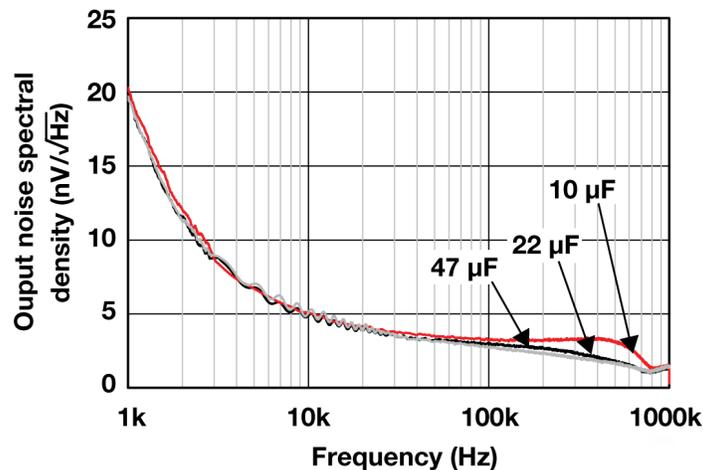
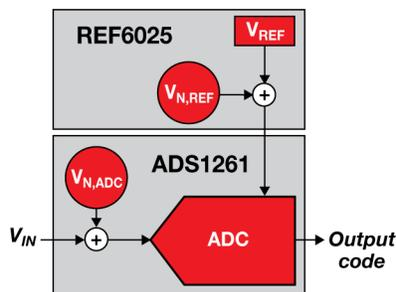

Figure 42. Output noise spectral density plot for the REF6025.
Figure 43. System setup using the ADS1261 and REF6025.
- **Point B.** This is the total noise when the input voltage is equal to the reference voltage—that is, a full-scale reading. In general, take the root sum of squares (RSS) of the reference noise and the ADC noise to determine Point B. However, when the reference noise is much larger than the ADC noise—as is the case in Figure 41—you can approximate Point B as just the reference noise. Either way, you generally cannot read the value of the voltage reference noise directly from the data sheet, since it depends on several factors including the voltage reference’s noise characteristics. Figure 42 shows the output noise spectral density for TI’s REF6025, a 2.5-V precision voltage reference.
In Figure 42, note the significant increase in noise density at low frequencies ($1/f$ [flicker] noise) compared to the relatively flat noise density at higher frequencies (broadband noise). Like several of the amplifiers analyzed in Section 3.2, reference noise performance is not necessarily constant over frequency.
For this example, let's continue using the REF6025 shown in Figure 42 and pair it with the **ADS1261**, a 24-bit delta sigma ADC. This device offers low noise and an integrated programmable gain amplifier (PGA), both of which will make the reference-noise-versus-gain relationship more apparent. Despite these choices, you can apply this analysis to any combination of ADCs and voltage references. Figure 43 shows the system setup for this example.
Similar to the amplifier noise analysis in Section 3.1, you can separate the components in Figure 43 into noiseless devices preceded by a voltage source that is equivalent to each component's noise. The ADC noise ($V_{N,ADC}$) is listed in the ADS1261's data sheet, while you must calculate the voltage reference noise ($V_{N,REF}$) using the REF6025 data sheet as well as the system ENBW. Fortunately, you can use the approximation methods I detailed in Section 2.2 to determine the system ENBW. In this case, the ENBW is 13 Hz using a 60 samples per second (SPS) output data rate (ODR) as well as the low-latency filter of the ADS1261. This yields approximately $1.2 \mu V_{RMS}$ of noise using the REF6025. Finally, you need to choose an input signal that allows you to use all available ADC gain options. Using the ADS1261's maximum gain of 128 V/V enables a maximum differential input voltage of ± 19.5 mV using a 2.5-V reference voltage. Table 19 summarizes the system specifications.